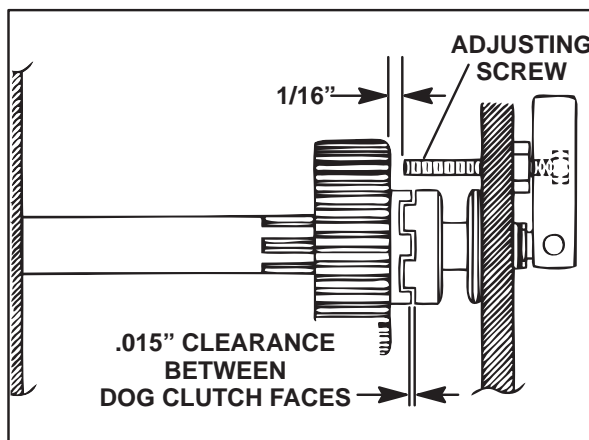

FIGURE 9
22. Back adjusting screw out until 1/16" (1.59mm) is obtained between screw and gear. (Figure 9)